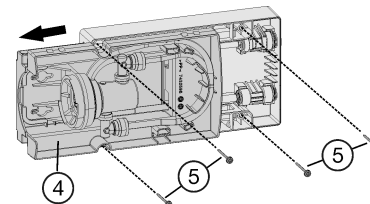

Fig. 38
- ▶ Pull the tray *Fig. 38 (4)* out until it catches.
- ▶ Secure the module with 4 screws *Fig. 38 (5)* through the recesses in the front and directly through the module in the back.